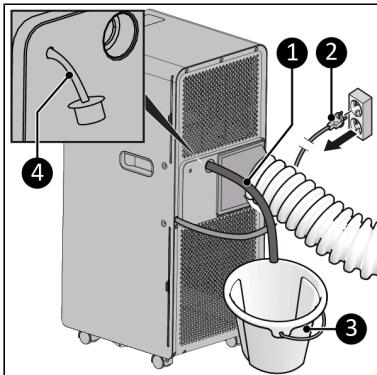

Figure 30.
1. Make sure the device is switched off and the plug is removed from the power outlet (Figure 30, pos. 2).
2. Remove the rubber plug from the drain (Figure 30, pos. 4).
3. Connect the included water drain hose (Figure 30, pos. 1) to the drain of the device.
4. Place the outlet of the water drain hose in a bucket (Figure 30, pos. 3).